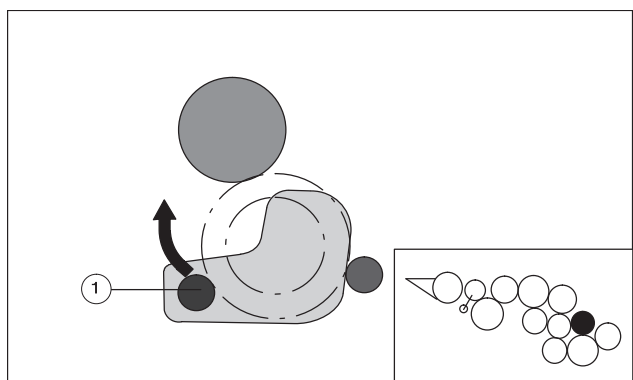

Fig. 22 Removing the 2nd inking form roller
1. Press the levers (Fig. 22/1) at the journal box on D.S. and O.S. upwards up to stop.